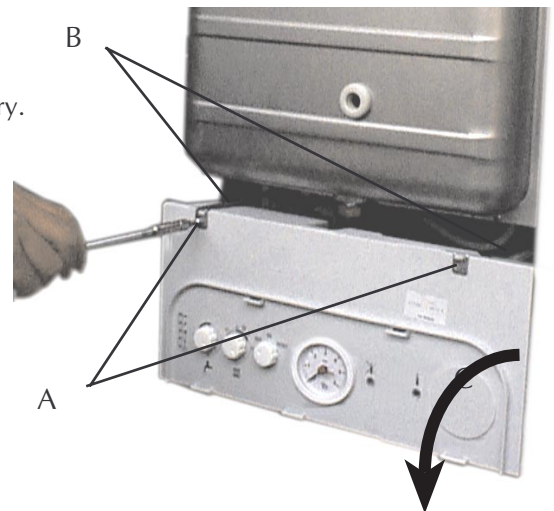

Fig. 27
7.03 To lower the control panel (fig. 27)
- Remove the two fixing screw (fig. 27) "A"